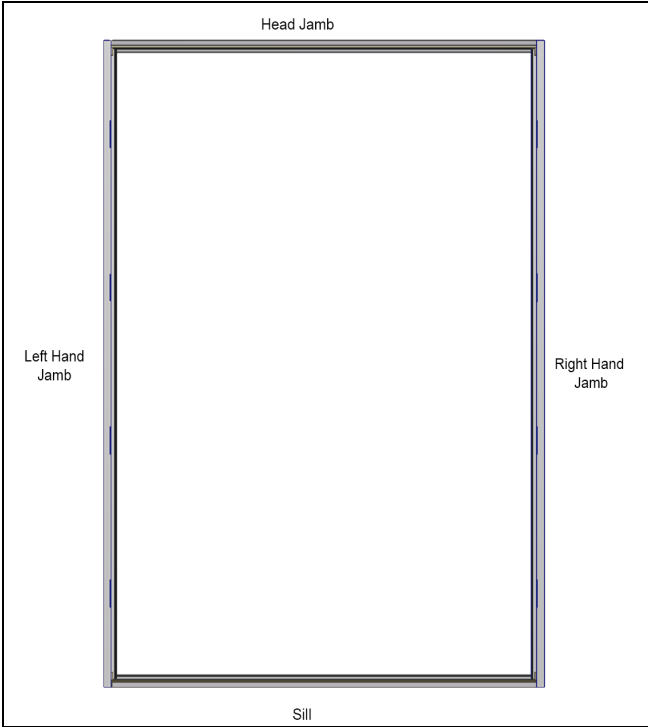

Figure 1
1. Flat surface free of dirt and debris, large enough to lay out a frame of 7' x 9' to be assembled. Below is the French Door Frame from the exterior. See Figure 1.